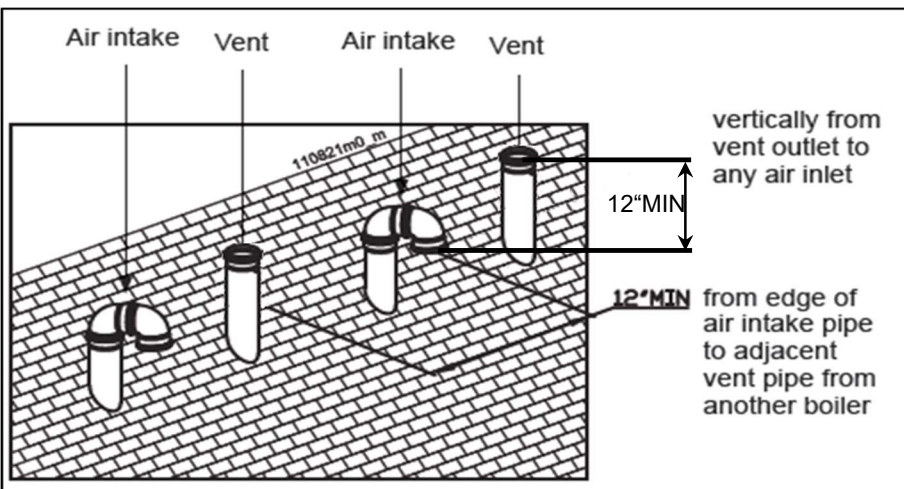

Figure 10.24
2. Place roof penetrations to obtain minimum clearance of 12 inches (305 mm) between outside edge of air intake and exhaust vent of another boiler for U.S. installations (see Figure 10.24). For Canadian installations, provide clearances required by the latest edition of the CAN/CSA B149.1 Natural Gas and Propane Installation Code.
NOTICE	<p>Do not allow insulation or other materials to accumulate inside the pipe assembly when installing through the hole.</p> <p>Ensure termination height is above the roof surface or anticipated snow level (a minimum of 12 inches (305 mm) in U.S.A. or 18 inches (457 mm) in Canada) as shown in Figure 10.24.</p>